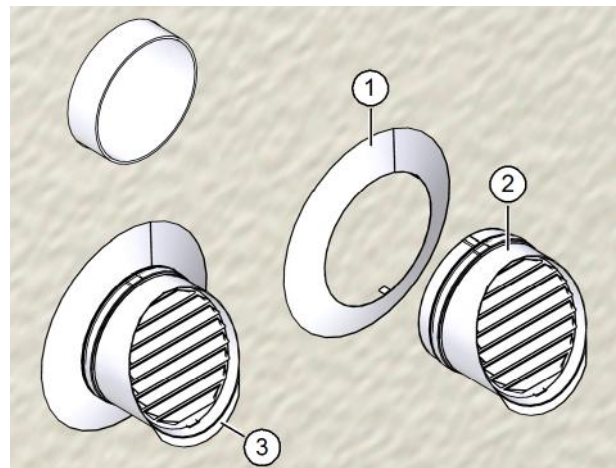

Fig. 15: Attaching the outer wall terminals
- ▶ Push the rosettes (item 1 in Fig. 15) onto the back of the two outer wall terminals (item 2 in Fig. 15).
- ▶ Direct the drip edges (item 3 in Fig. 15) downwards.